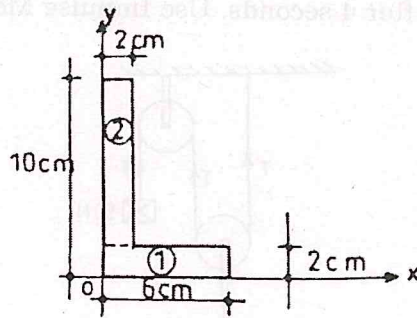

fig Q 13(b)
- (b) Calculate the moment of inertia of L section shown in fig Q 13(b) below about the horizontal axis passing through the C.G.